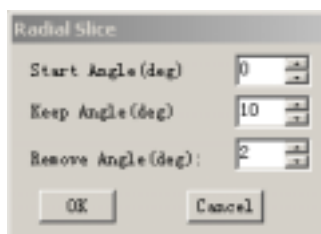

Fig. 6-27
3. A dialog is displayed. (Fig. 6-27)